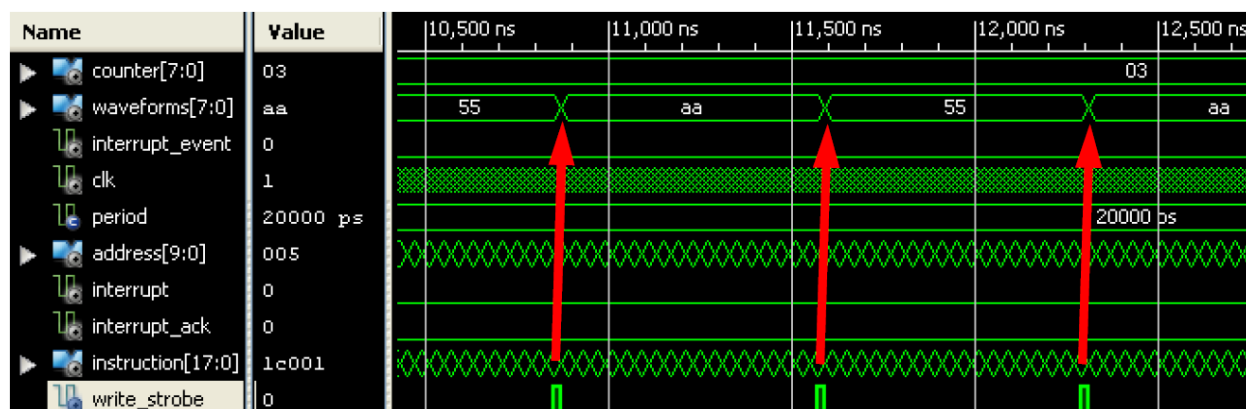

Figure 14. Output Waveforms from Lab #1 of Xilinx.
- (1) Submit your report in pdf format. Name your report to be lab1yourlastname in pdf.
- (2) Your report should be of memo style that includes your name, date, subject title, a summary and the following data and brief description of each table or figure.
- *Your own simulation waveforms similar to Figure 11, Figure 13, and Figure 14 from “Xilinx Tool Flow Lab Workbook”..*
Change simulation run time to 25000ns, add write_strobe signal and re-simulate the design. Analyze the output waveform process (**Figure 14**).
Analyze the output waveform process in **Figure 14** to see how write_strobe signal works.